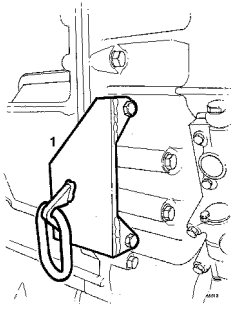
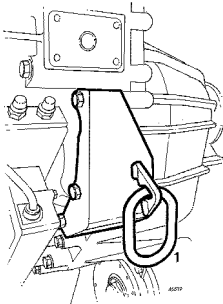

Figure 2
Figure 3
9. Fit 3621 and 3622, see Fig. **Figure 2** and **Figure 3**.